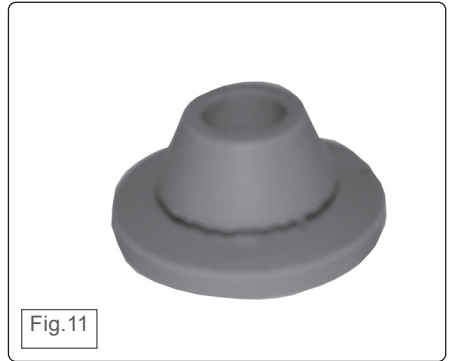

Fig.11
- If the keg seal is of the type that is fully removable, use the supplied tapered seal (fig.11) to make a leak proof seal.